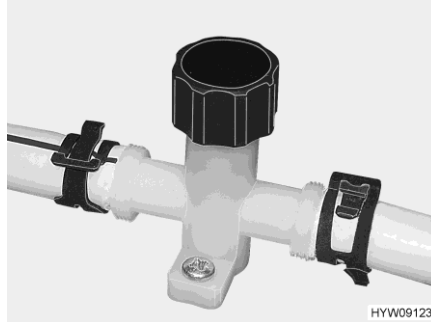
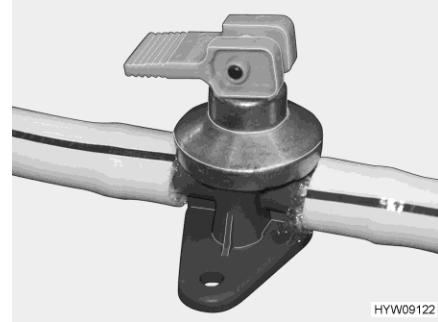

Fig. 177 Drain cock (water pipe)
Fig. 178 Drain cock (Alde boiler)
- Close the drain cocks. To do so, turn the cap (Fig. 177) in a clockwise direction and set the rocking lever (Fig. 178) in a horizontal position.
- Open the drain cocks. To do so, turn the cap (Fig. 177) in an anticlockwise direction and set the rocking lever (Fig. 178) in a vertical position.